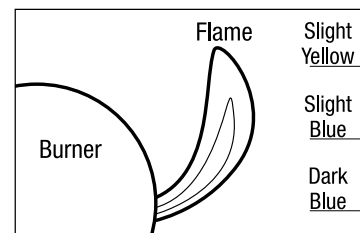

FIG. 3
9. After lighting, observe the burner flame. Make sure all burner ports are lit and flame height matches illustration (Fig. 3).